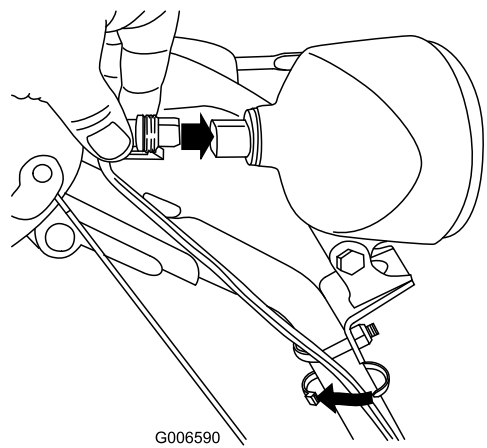

Figure 62
6. Insert the wire connector straight into the back of the headlight until it is securely in place (Figure 62).